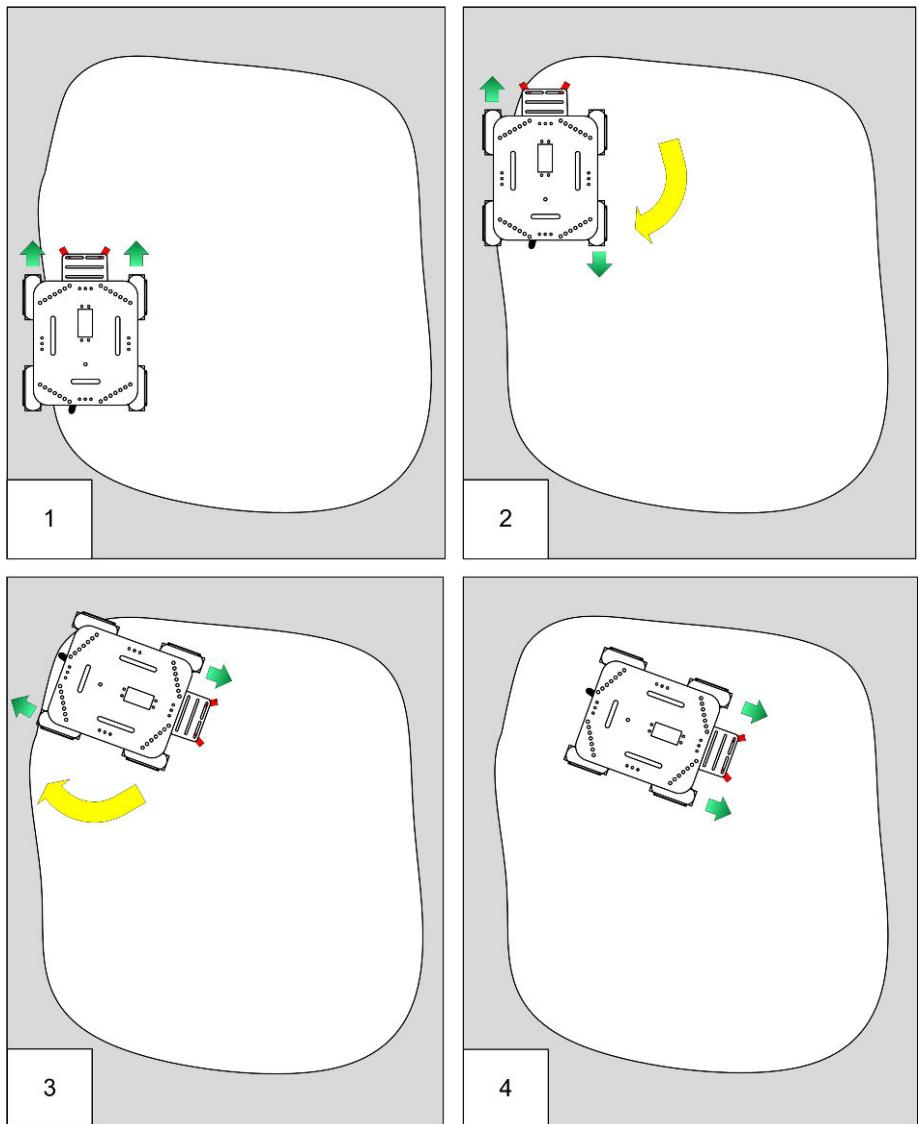

Figure 9-2. Robot stays within the reflective area
- A reflective surface with non-reflective edges for the edge detection sketch (see Figure 9-2). You can use a large sheet of plain white paper with the edges marked using a black marker pen or black electrical tape. The border should be around 3/4 of an inch thick or so. The optimal surface would be white, but with sufficient friction that your robot won't slip. Lining paper, often sold as unpasted wall liner, is a great surface. It's designed to provide an even surface for wallpapering or painting, but with enough texture that makes it great for racing robots.
Figure 9-2 shows how the robot responds to moving over an edge. In panel 1, the sensors do not detect an edge so the robot moves forward. In panel 2, the left sensor moves off the reflective surface so the robot stops and rotates 120 degrees. In panel 3, the robot completes its rotation; panel 4, shows the robot moving forward again.